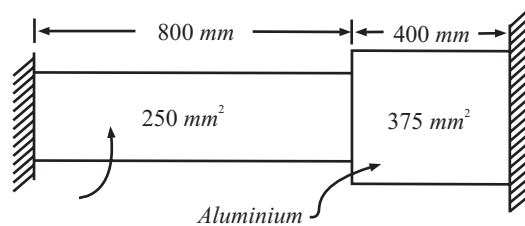

Fig 14.47
Q. 67: The composite bar consisting of steel and aluminium components as shown in Fig. 14.47 is connected to two grips at the ends at a temperature of 60°C. Find the stresses in the two rods when the temperature fall to 20°C